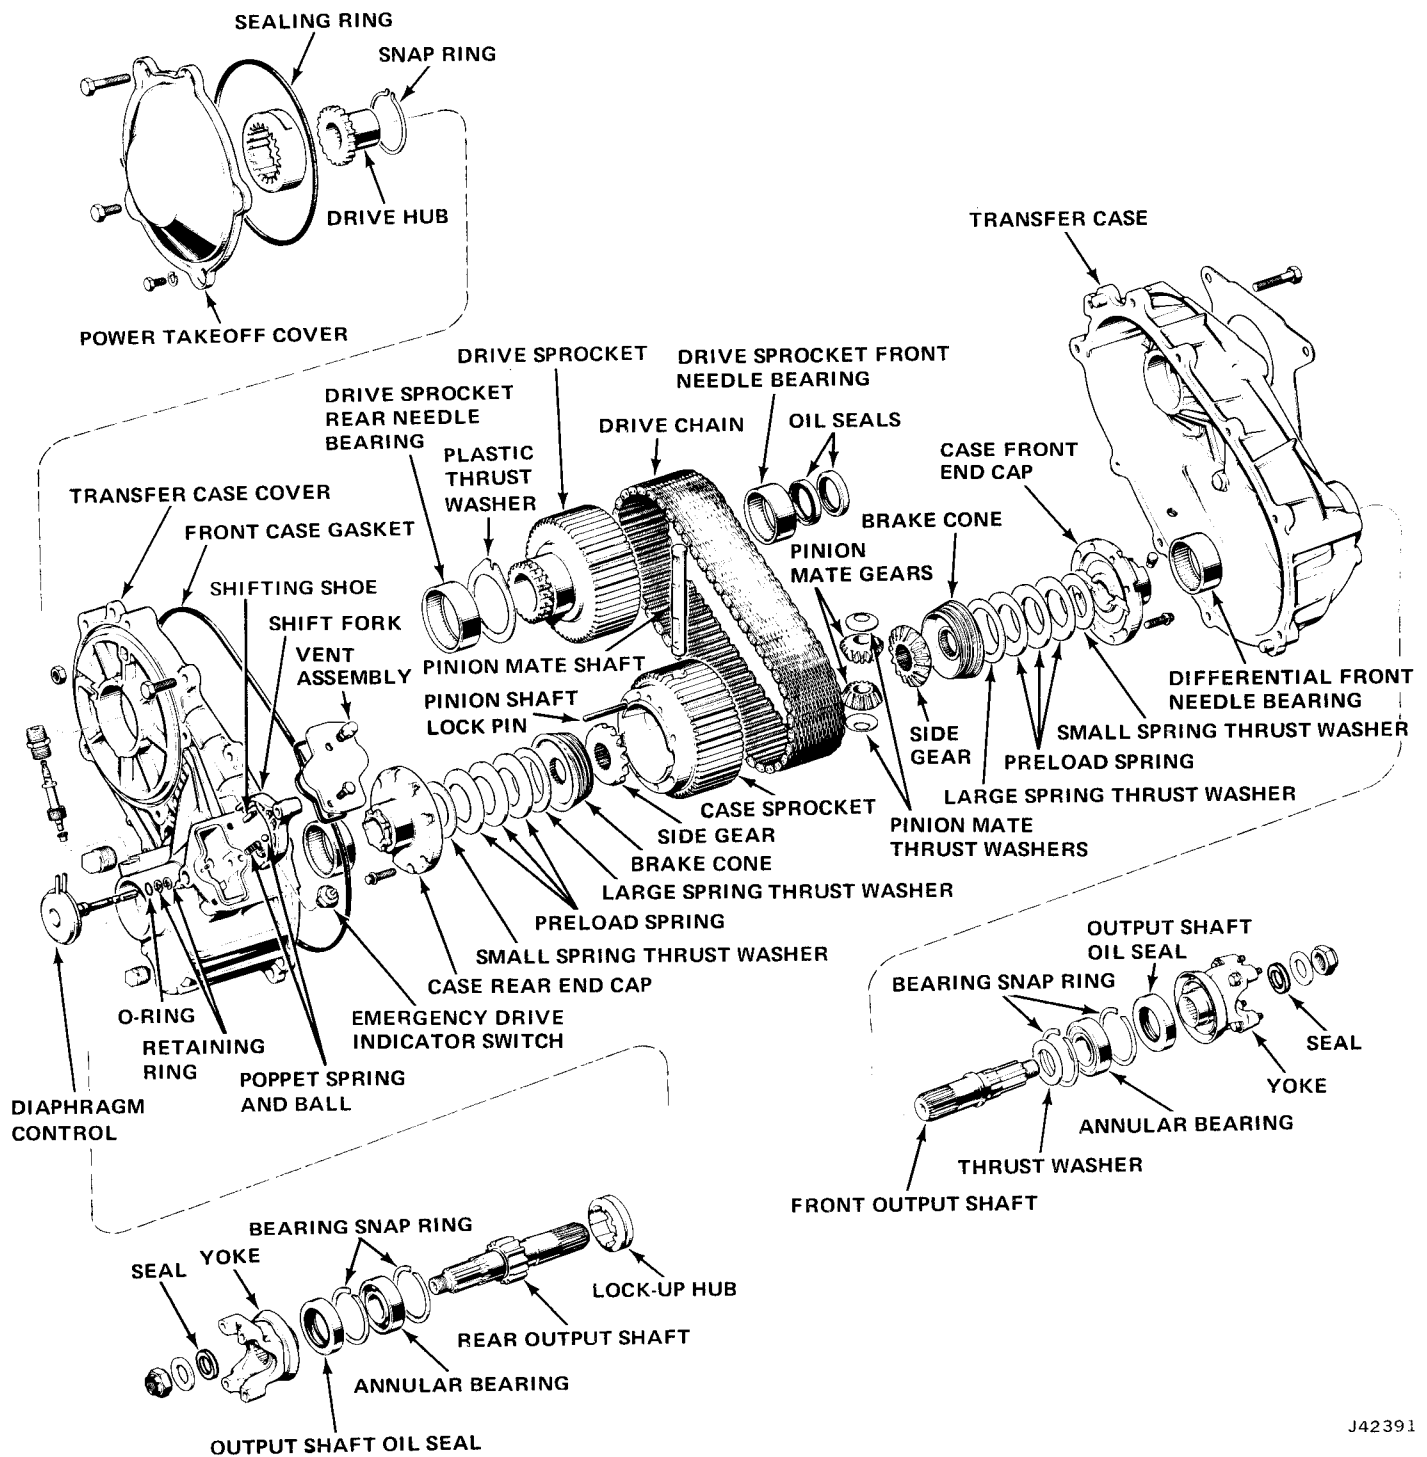

Fig. 8-40 Quadra-Trac Transfer Case Components
- (1) Remove rear output shaft yoke.
- (2) If not equipped with reduction unit, remove power takeoff cover from rear of transfer case cover. Remove sealing ring from transfer case cover (fig. 8-40).